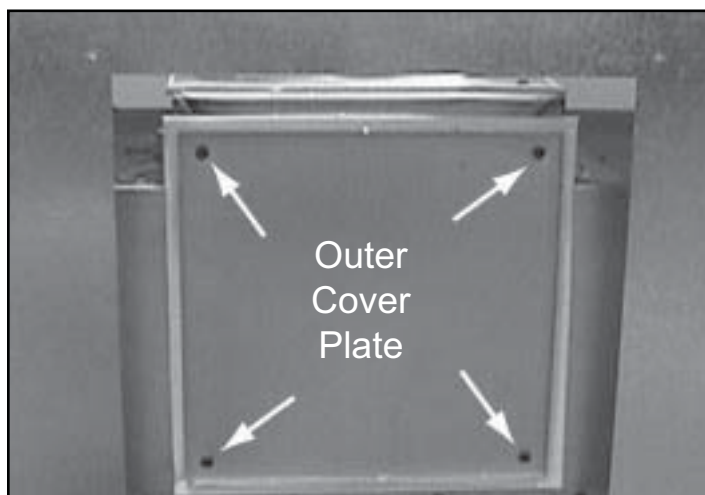
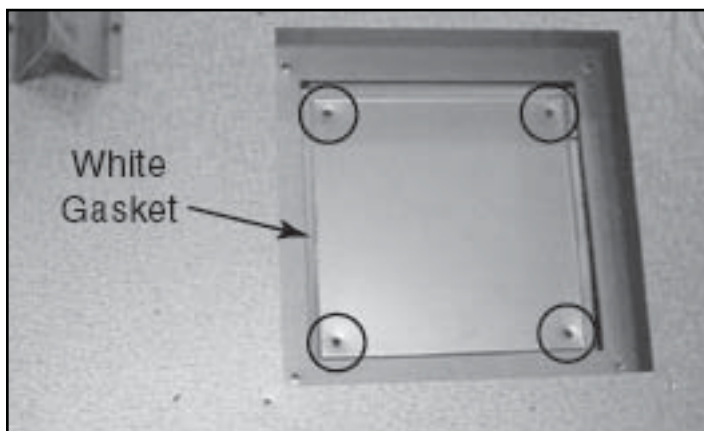

Figure 7.7 Remove Outer Cover Plate
Figure 7.13 Place Outer Cover Plate on Top of Appliance
- Remove four screws holding the outer cover plate to the appliance back. See Figure 7.7. Remove the outer cover plate and white gasket.
- Place the outer cover plate and white gasket (removed in Figure 7.7) on the appliance top. Use four screws to hold the outer cover plate in place. See Figure 7.13.